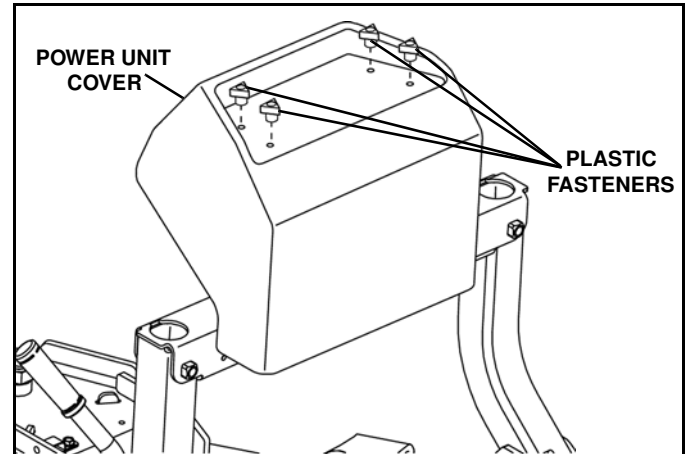

Figure 1-16
19. Remove four plastic fasteners and cover from power unit. (See Figure 1-16).